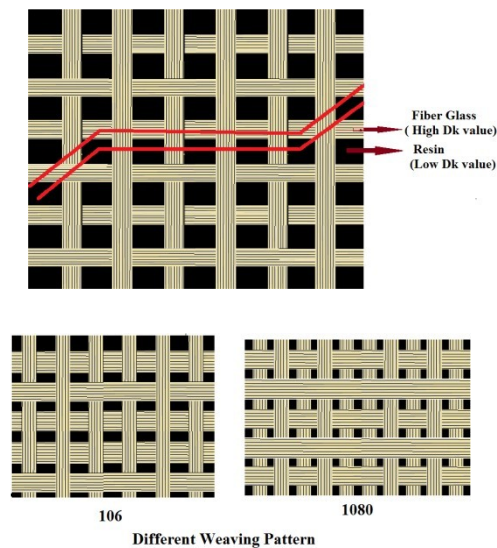

FIGURE 1: Dielectric weave pattern
PCB dielectric materials are usually woven fiberglass fabrics reinforced with epoxy resin. Both fabric fiber and resin are composite materials with typically different dielectric constant (DK) and loss tangent (DF) properties, presenting a non homogeneous medium for signal propagation. As data rates increase, designers are increasingly moving away from wide parallel buses to serial buses with differential signaling. High-speed serial interfaces such as PCIe, QSFP, SFP, XAUI, uses differential signaling for transmitting and receiving data. Any timing skew between the positive (D+) and negative (D-) data will convert some of the differential signal into a common signal component. Ultimately this results in eye closure at the receiver and contributes to Electro-Magnetic Interference (EMI) radiation. A differential pair routing showing one trace routed over a fiberglass bundle for a portion of its length while the other trace is routed over mostly resin is shown in Figure1. As data rate increases, the fiberglass weave pattern causes signals to propagate at different speeds within differential pair traces, causing timing skew and mode conversion at the receiver, leading to reduced bit-error-rate (BER) performance and increased EMI radiation. This effect can have profound impacts on the effective dielectric constants of printed circuit boards, which can cause unforeseen degradations in signal integrity.